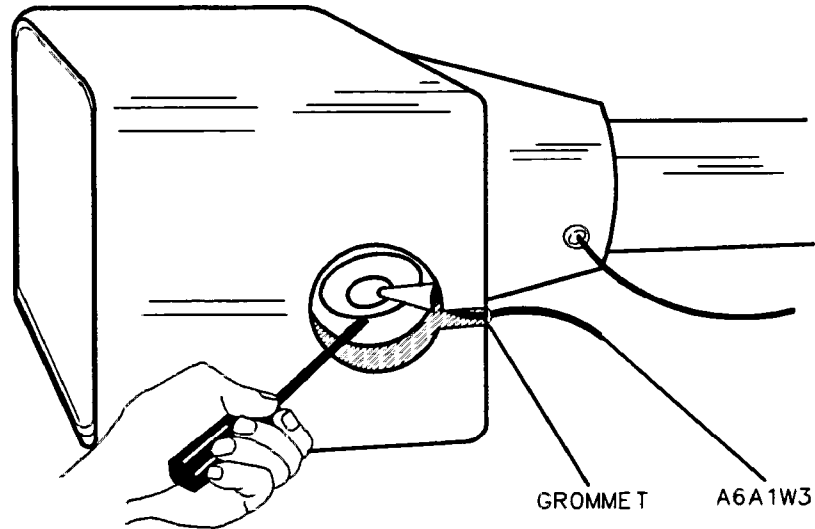

Figure 3-2. Grounding the Post-Accelerator Cable
5. Using a small screwdriver with the shank in contact with the CRT shield assembly, slip the tip of the screwdriver under the A6A1W3 post-accelerator cable's rubber shroud and short the cable to ground on the CRT shield assembly. See Figure 3-2.
6. Pry out the black grommet protecting post-accelerator cable A6A1W3 from the CRT shield assembly. See Figure 3-2.
7. Carefully unsnap the A6A1W3 post-accelerator cable from the CRT and discharge it by shorting the cable to chassis ground on the CRT shield assembly. See Figure 3-2.